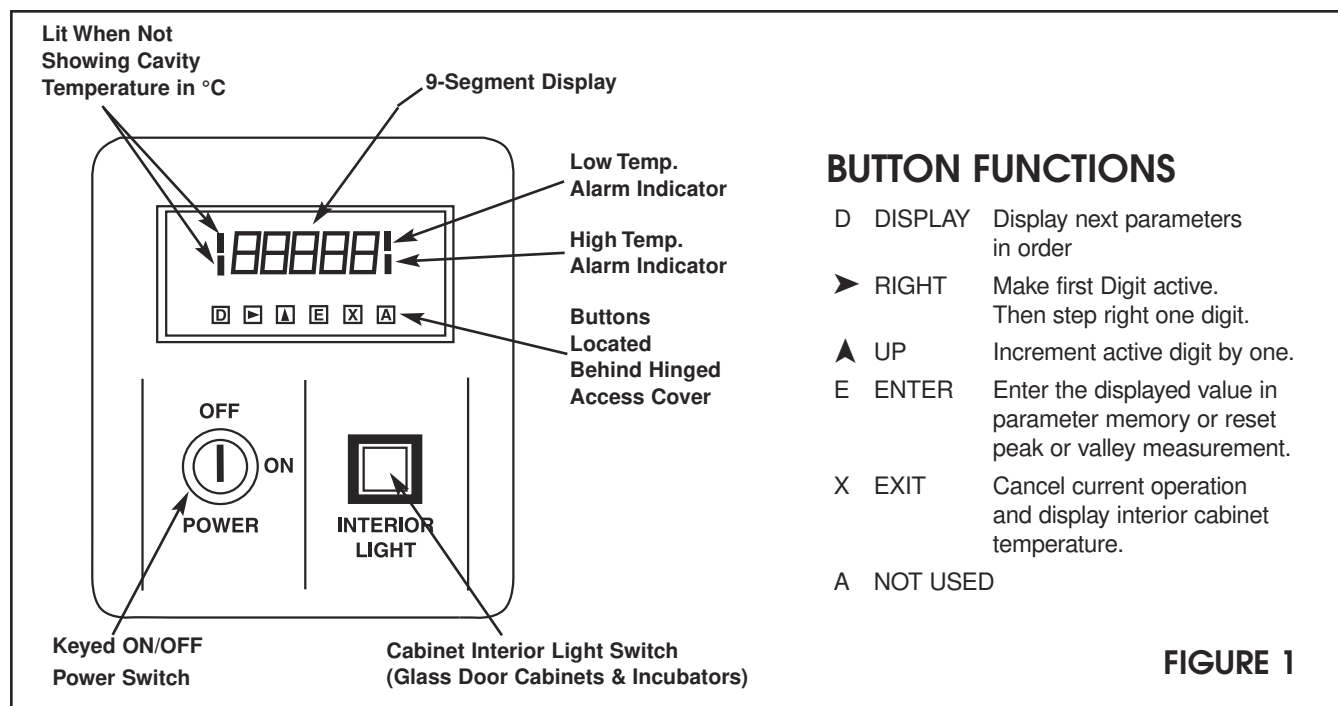

FIGURE 1
1. In normal mode of operation the instrument displays the current temperature reading. By pressing the 'D' key, other values and operating parameters may be sequentially reviewed. While the 'D' key is held down a code indicating the parameter is displayed; when the key is released, the parameter value is shown (See Table 1 for parameters). When these values are displayed, the two left side red indicator bars are lit, indicating a non-standard display (See Figure 1).